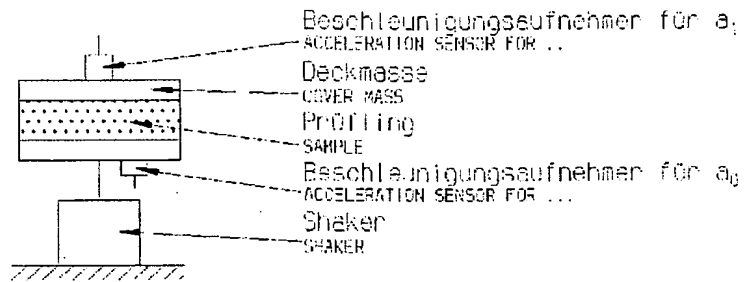

Abb. 1
FOR TESTING THE MATERIAL SAMPLES, WHICH SHOULD HAVE A TOPSIDE/UNDERSIDE WHICH IS AS PLANE-PARALLEL AS POSSIBLE, ARE TO BE SUBJECTED TO A VERTICAL ACCELERATION (1) VIA A VIBRATION GENERATOR (SEE FIGURE 1).
ng (a_0) beaufschlagt (siehe Abbildung 1).